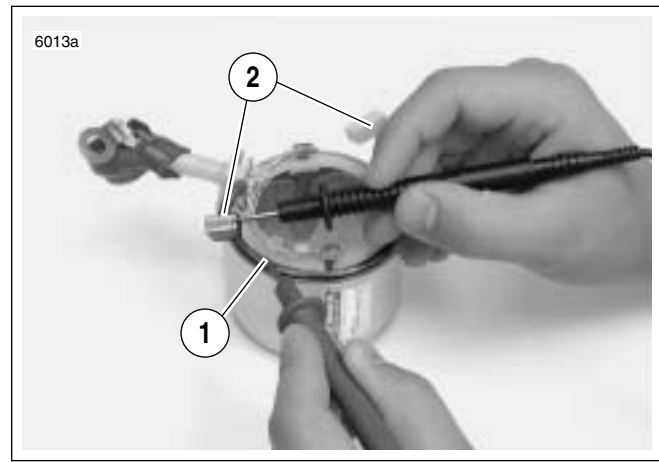
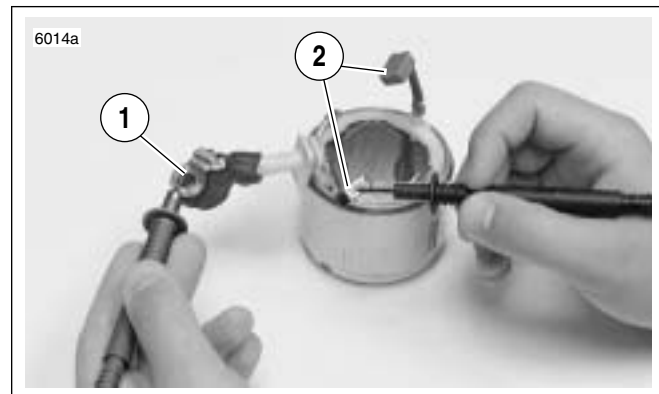
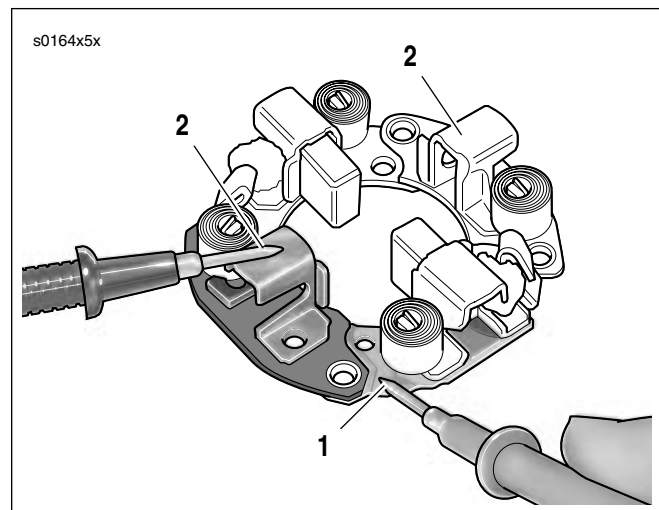
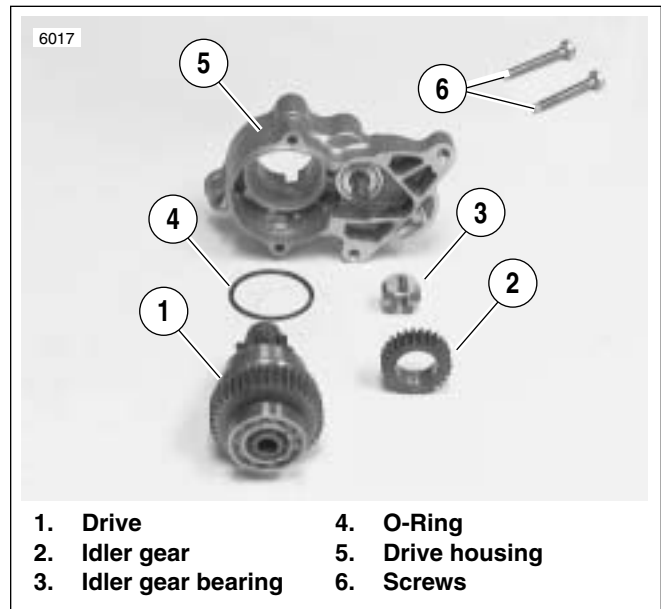

Figure 5-21. Grounded Field Test
Figure 5-22. Open Field Test
Figure 5-23. Brush Holder Insulation Test
Figure 5-24. Starter Drive Assembly
12. See Figure 5-21. Check for GROUNDED FIELD COIL with an ohmmeter or continuity tester.
- a. Touch one probe to the frame (1).
- b. Touch the other probe to each of the brushes (2) attached to the field coil.
13. See Figure 5-22. Check for OPEN FIELD COILS with an ohmmeter or continuity tester.
- a. Touch one probe to the field wire (1).
- b. Touch the other probe to each of the brushes attached to the field coil(s) (2).
14. See Figure 5-23. Test BRUSH HOLDER INSULATION with an ohmmeter or continuity tester.
- a. Touch one probe to holder plate (1).
- b. Touch the other probe to each of the positive (insulated) brush holders (2).
15. See Figure 5-24. Remove two drive housing mounting screws (6). Remove drive housing (5) from solenoid housing.
16. Remove drive (1), idler gear (2), idler gear bearing (3), and o-ring (4) from drive housing (o-ring is located in drive housing groove).
1. See Figure 5-24. Clean, inspect and lubricate drive assembly components. Lubricate parts with high temperature grease, such as LUBRIPLATE 110.